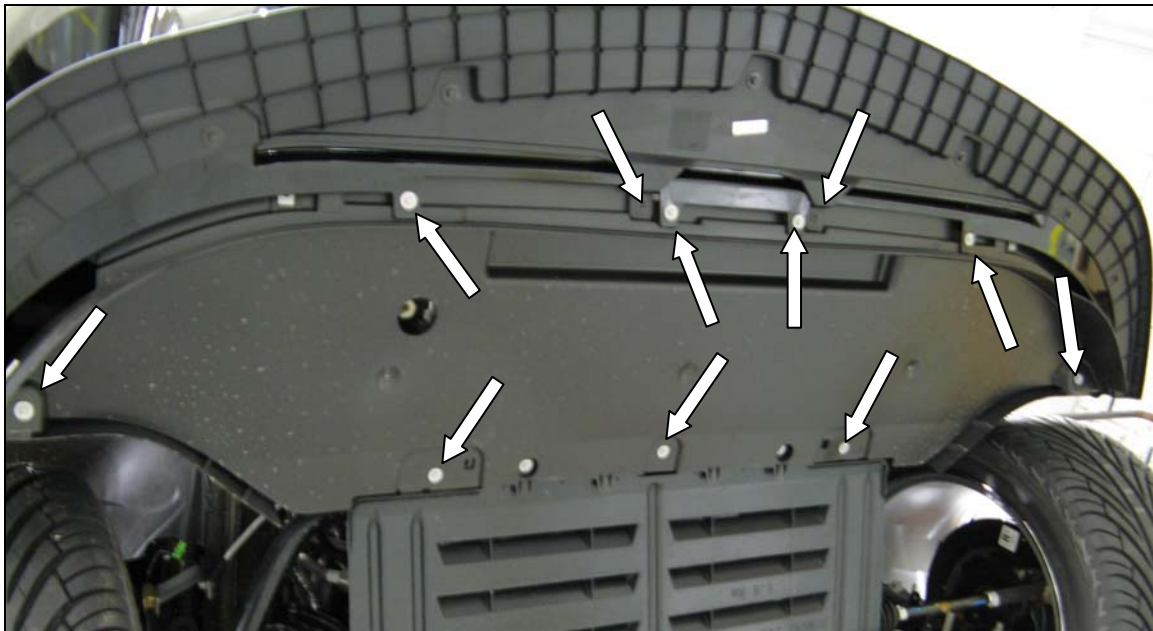

Figure 5
7. Using a 1/4" drive ratchet with a 5.5 mm socket, remove nine (9) screws from the lower close-out panel; one (1) at each wheel well splash shield, four (4) at the front fascia and three (3) at the rear edge of the close-out panel. If the vehicle has a ROUSH Front Splitter installed, remove two (2) phillips head screws. Refer to Figure 5. Remove the lower close-out panel. Set all parts aside for reinstallation.
22. Reinstall the lower close-out panel using the nine (9) screws and two (2) philips screws removed in Step 7. Refer back to Figure 5.